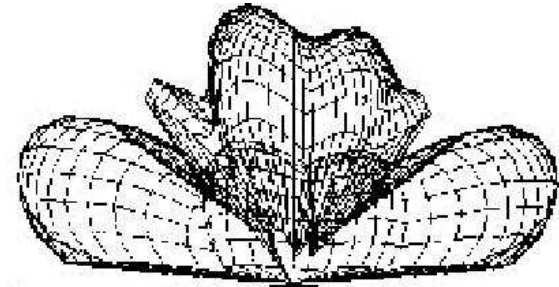

**FIGURE 3b**
**The New Carolina Windom:** Figure 3b is a pictorial of the *New Carolina Windom*. This more recent version has some very interesting characteristics. For one, the 4:1 Balun has been moved to the antenna radiator and is built into the center insulator. The other interesting feature is the 10 feet of coax from the Balun and terminated in a choke or line isolator. I have fitted the 10 foot stub with PL-259 UHF connectors on each end. This allows the coax vertical radiator to be easily removed if desired. It is designed to hang vertically which is one reason why this antenna is so effective. Look at the radiation patterns later in the next column. The radiation pattern when using the vertical radiator combines both horizontal and vertical radiation components and lowers the effective angle of radiation.
As shown in Figure 3b, there's a line isolator which is really a choke to prevent the RF present on the shield of the vertical radiator from migrating down the coax feed line to the transmitter. The next photo shows the components of the isolator and its enclosure. See the parts list at the end of this article for the parts details.